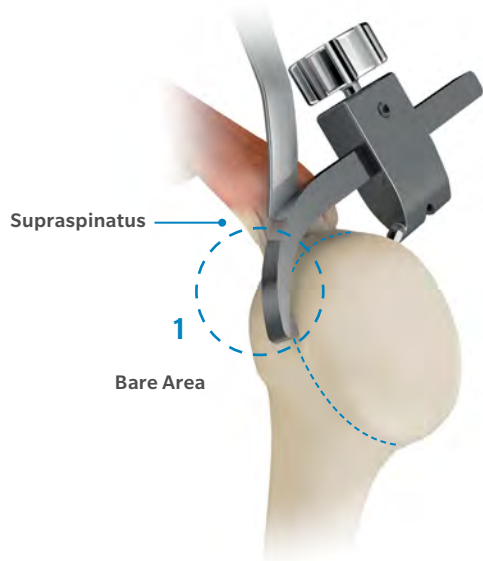

Figure 7
- Place the sharp point of the Supraspinatus Alignment Guide Finger on the posterior side of the humeral head. Ensure it is exactly on the anatomic neck (Figure 7).